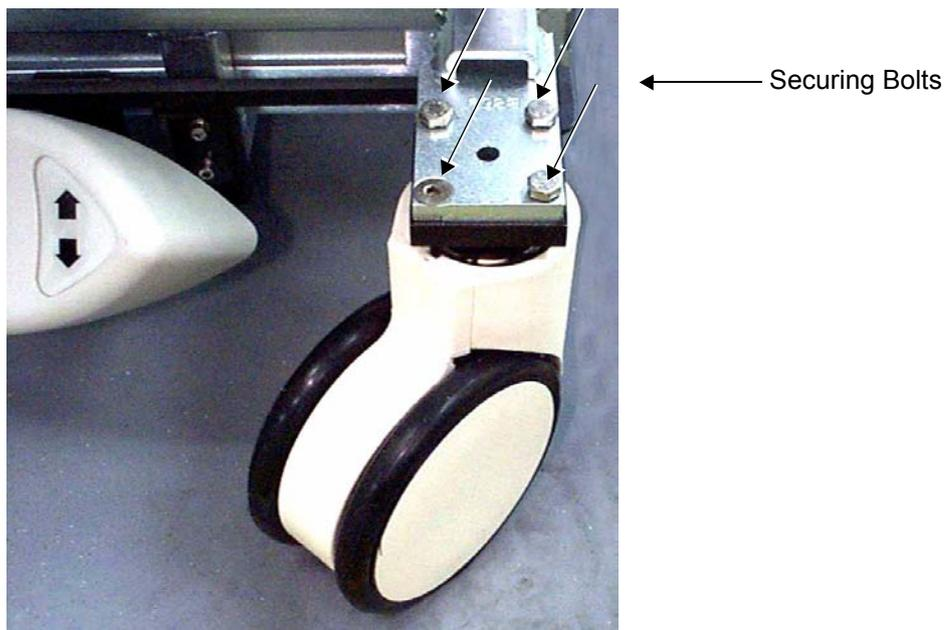

Figure 8-98 Front Wheel (Part No 2392789) Bolted to Chassis
- 6) Remove the four bolts (three wrench bolts and one Allen bolt - see Figure 8-98 below) that secure one of the front wheels to the chassis, and remove the wheel.
Install the four bolts (three wrench bolts and one Allen bolt removed in step 6 on page 8-109 refer to [Figure 8-98 on page 8-109]), making sure that the wheel is secured firmly to the chassis.
Install the four bolts (three wrench bolts and one Allen bolt removed in step 6 on page 8-109 refer to [Figure 8-98 on page 8-109]), making sure that each wheel is secured firmly to the chassis.